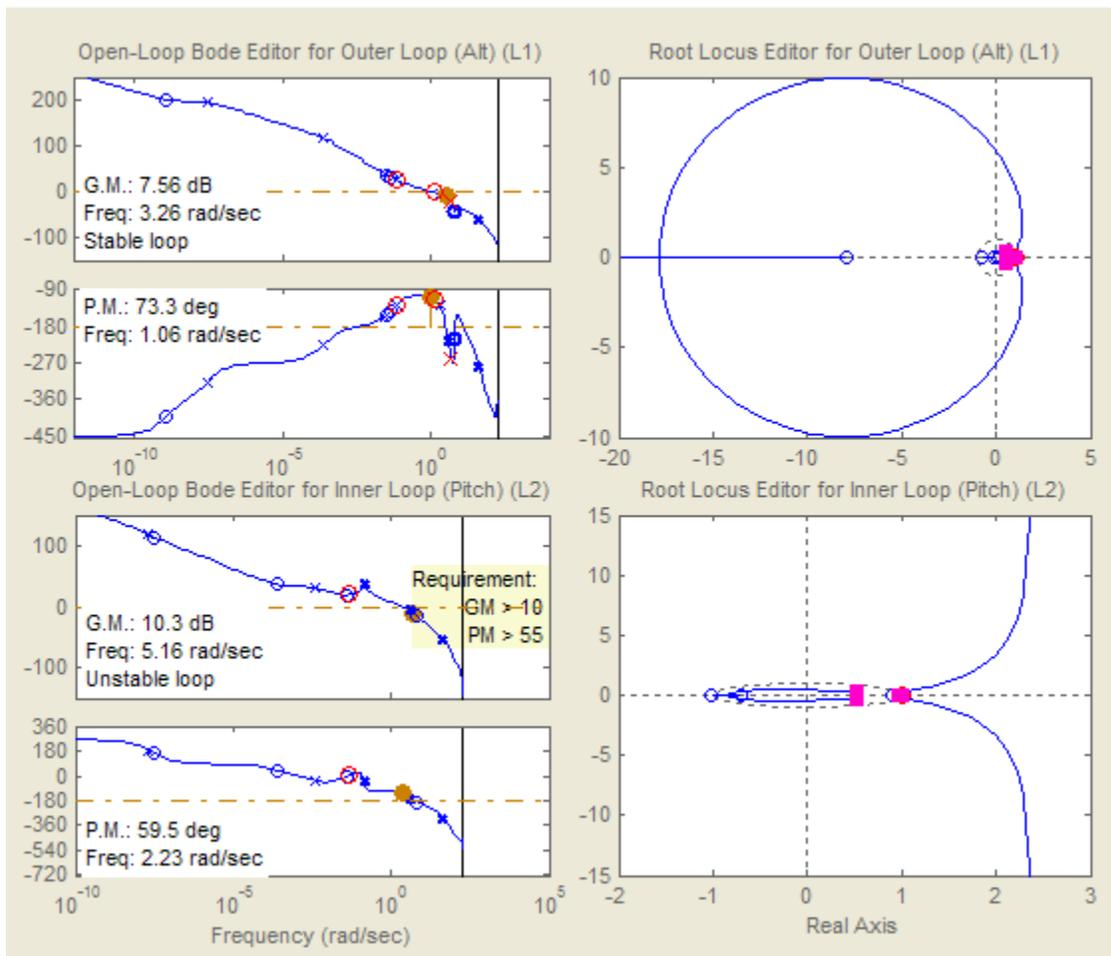

Figure 13: Design plots at trim condition after controller tuning.
To make the multi-loop design more systematic, use a sequential loop closure technique. This technique lets us incrementally take into account the dynamics of the other loops during the design process. With Simulink Control Design, configure the inner loop to have an additional loop opening at the output of the outer loop controller (C1 in Figure 12). This approach decouples the inner loop from the outer loop and simplifies the inner-loop controller design. After designing the inner loop, design the outer loop controller. Figure 13 shows the resulting tuned compensator design at the final trimmed operating point.
- You can use a graphical approach, and interactively move controller gain, poles, and zeros until you get a satisfactory response (Figure 13).